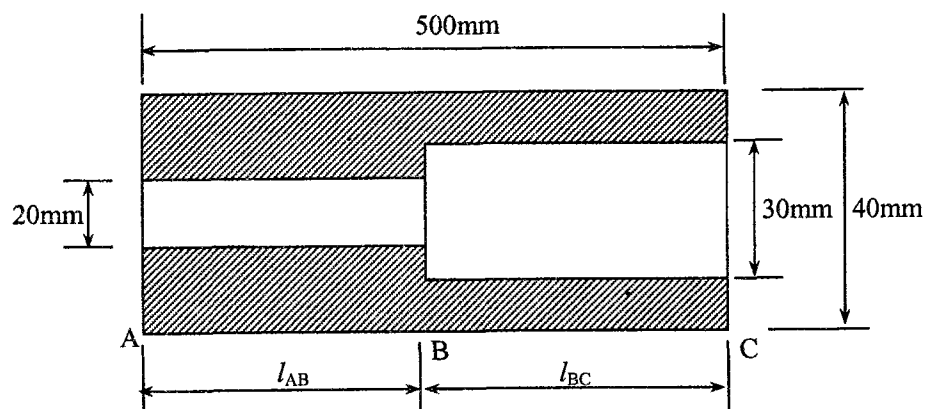

Figure 2
2. Figure 2 shows a circular bored shaft ABC of 500 mm length with 40 mm external diameter. The internal diameter of length AB is 20 mm and for the remaining length BC is 30 mm. The shear stress is not to exceed 80 N/mm² and the shaft can transmit torque at a speed of 200 r.p.m.